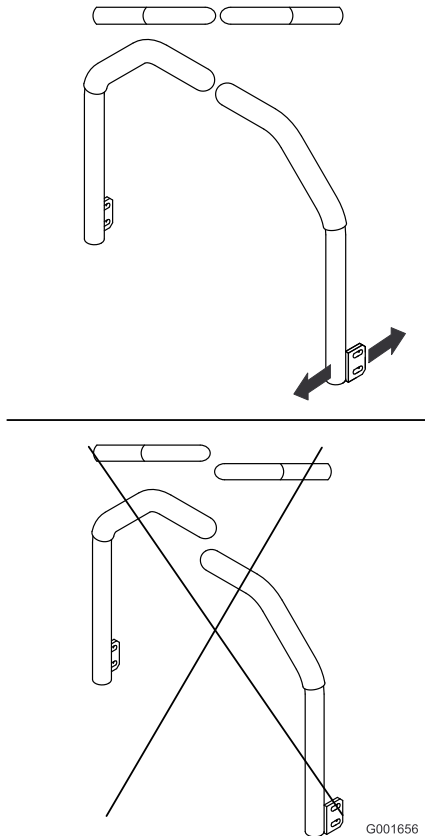

Figure 78
5. Adjust the control levers so that they line up (Figure 78) and tighten the bolts, securing the levers to the posts.